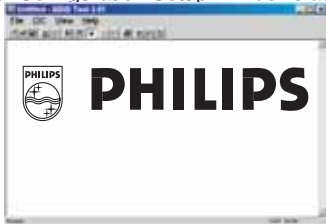

Fig.15
1. Click icon as shown in Fig. 15 from the tool bar to bring up the Channels "Configuration Setup" windows as shown in Fig. 16.